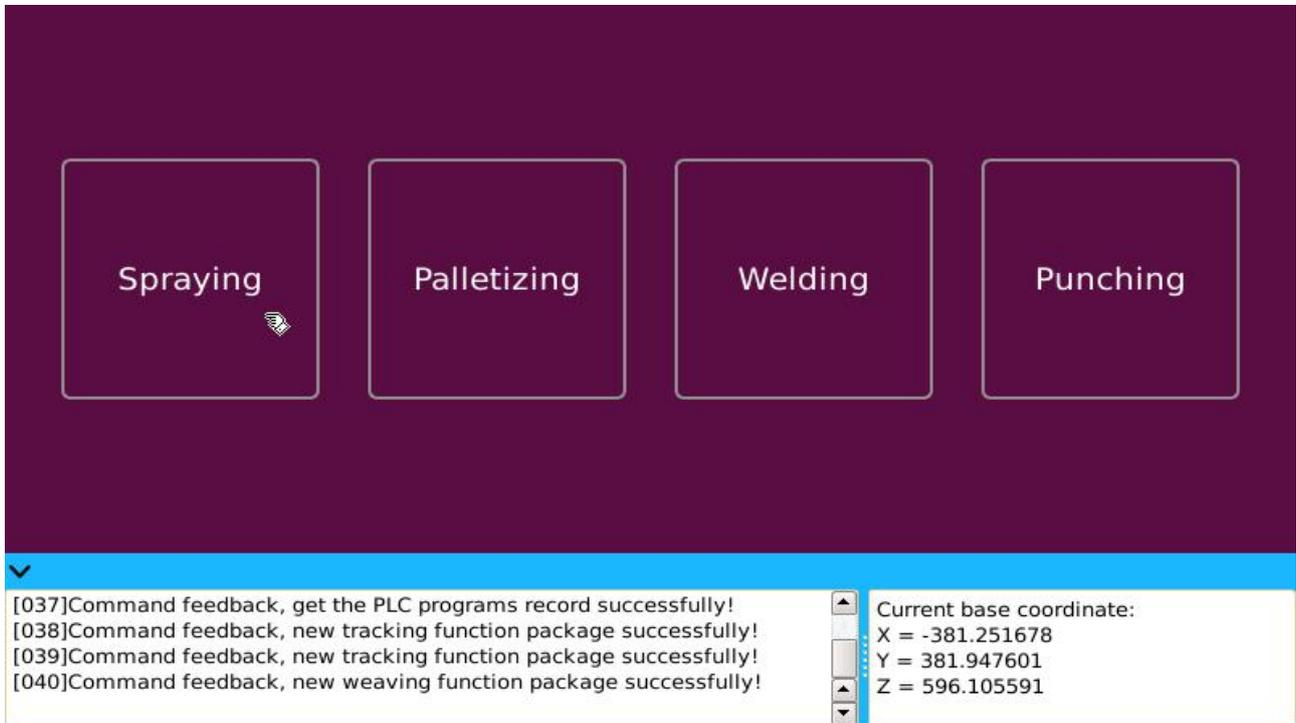
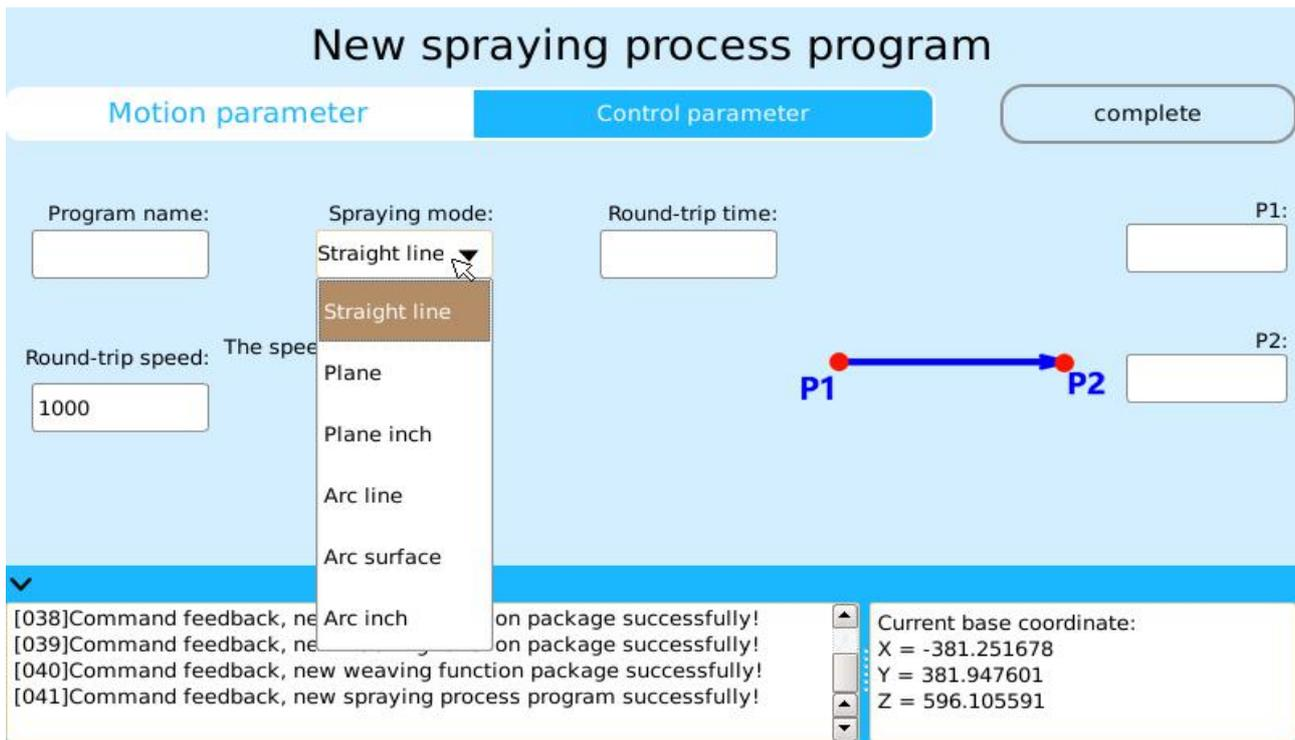

Figure 8.1 “process pack” Interface
Figure 8.2 Spraying Procedure Creation Interface
In the “demonstrator” login main interface (shown in Figure 2.4), select [motion]--[create program]--[Process Pack] icons and enter the system “process pack” interface, as shown in Figure 8.1. The “process program” of the system is divided into 4 kinds: “spraying” process, “palletization process”, “welding” process and “Stamping” process.
As shown in Figure 8.1, in the “process pack” interface, select the [spray] icon to enter the creation interface of the “spraying procedure”, as shown in Figure 8.2. The system “spraying procedure” is divided into 6 spraying modes: “linear”, “flat”, “flatinch-motion”, “camber”, “arc surface” and “arc surface inch-motion”. “Motion parameter” and “control parameter” are required to be set when creating a “spraying procedure” program.
As shown in Figure 8.2, the 6 kinds of spray modes of “linear”, “flat”, “flatinch-motion”, “camber”, “arc surface” and “arc surface inch-motion” when choosing different spraying modes, the motion parameter setting is also different.
(1) The motion parameters of the “linear spraying mode”: As shown in Figure 8.2, when in “linear” spraying